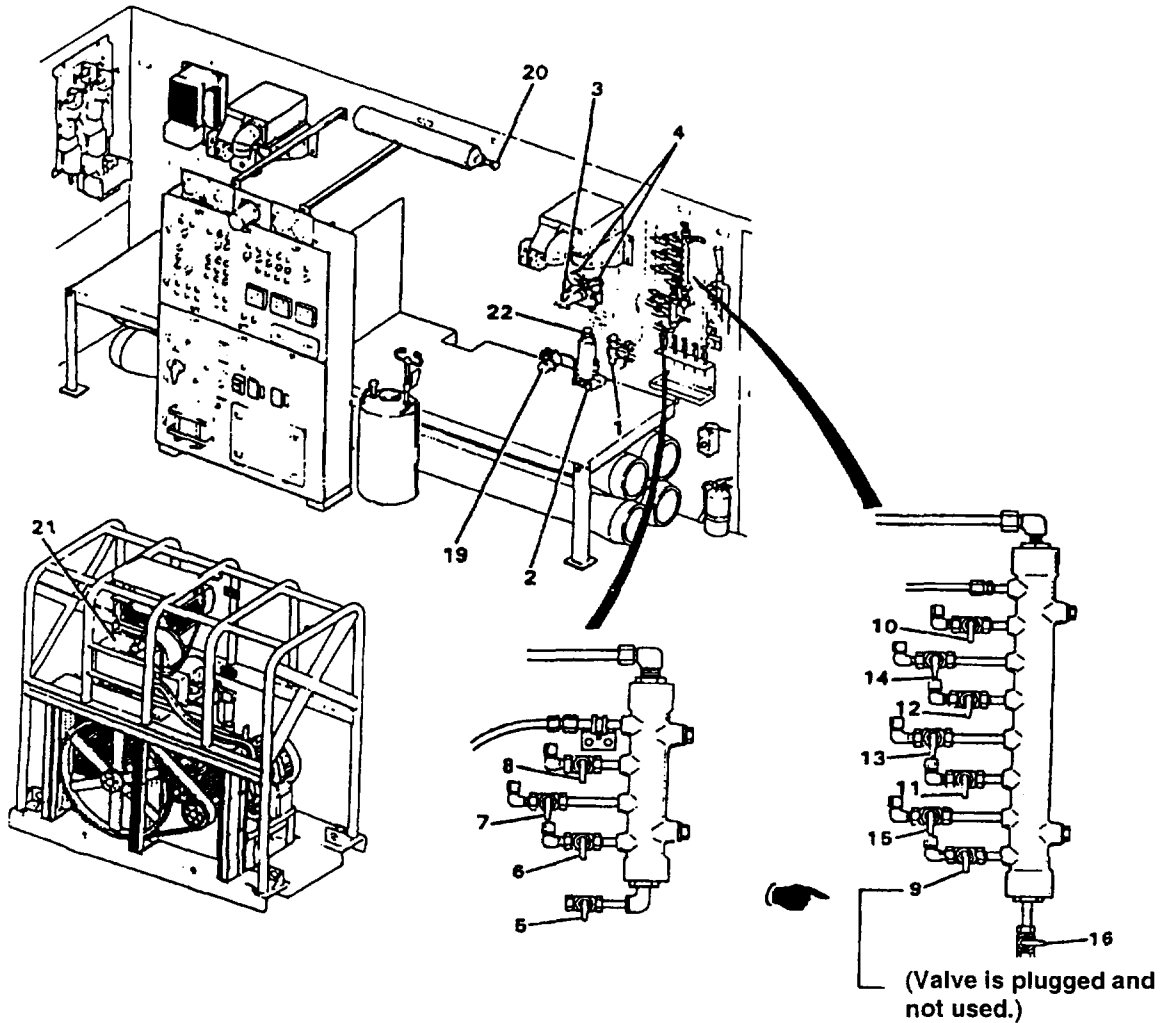

Figure 2-8. Air Supply Controls and Indicators
f. *Air Supply Controls and Indicators.* The air supply controls and indicators are shown in Figure 2-8 and listed in Table 2-7.
(Item numbers are keyed to Figure 2-8)